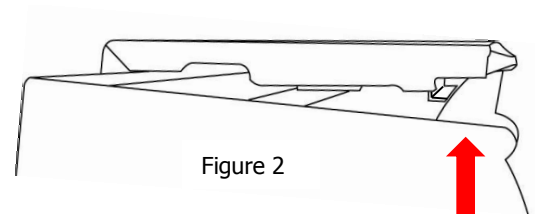

Figure 2
- ii) Lift the front of the headrail so that the clips on the front of the head rail lock into place (Figure 2)